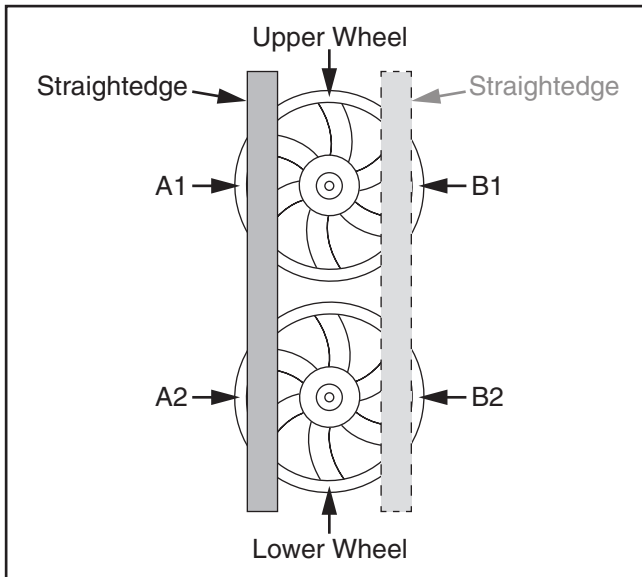

Figure 58. Example of using a straightedge to check lateral wheel alignment.
3. Check wheels at **A** and **B** locations (see **Figure 58**). The wheels should align.
4. Mark upper and lower wheels with a pencil or marker to indicate measuring locations (see **Figure 58**).